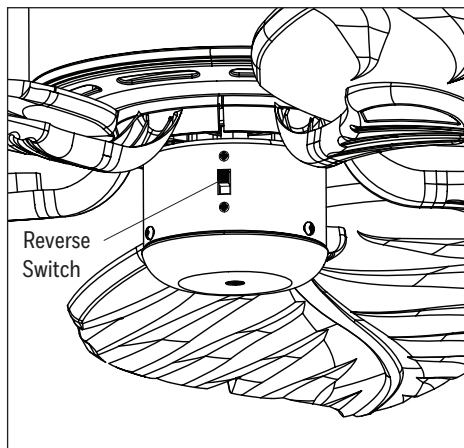

Figure 6.2
2. Use the reverse switch located on the switch housing to optimize your fan for seasonal performance. In warmer weather, push the reverse switch down which results in downward airflow creating a wind chill effect. In cooler weather, push the reverse switch up which results in upward airflow that will help move hot air of the ceiling (Figure 6.2).